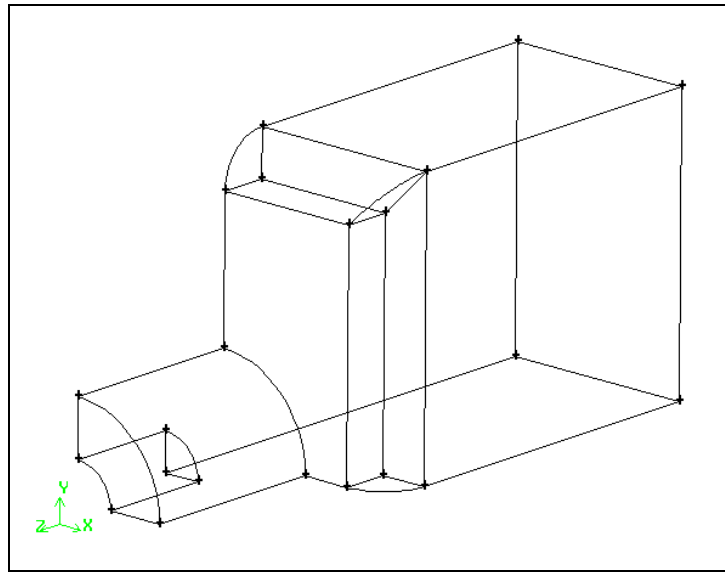

Figure 4-22: Decomposed burner geometry
*The complete decomposed burner geometry (see Figure 4-22) is now ready to be meshed.*